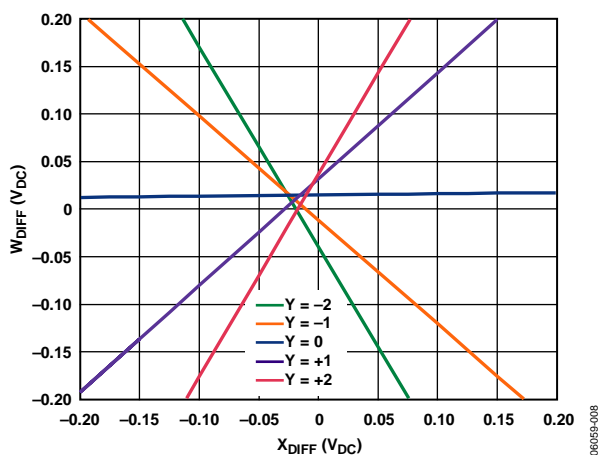

Figure 4. Magnified DC Cross Plots
The dc offset of the ADL5391 is approximately 20 mV but changes over temperature and has variation from part to part (see Figure 4). It is generally not of concern unless the ADL5391 is operated down to dc (close to the point $X = 0 \text{ V}$ or $Y = 0 \text{ V}$), where 0 V is expected on the output ($W = 0 \text{ V}$). For example, when the ADL5391 is used as a VGA and a large amount of attenuation is needed, the maximum attenuation is determined by the input dc offset.
The dc component of the output is related to the square of both the offset (OFST) and the signal input amplitude (E). The offset can be found in Figure 4 and is approximately 20 mV. The